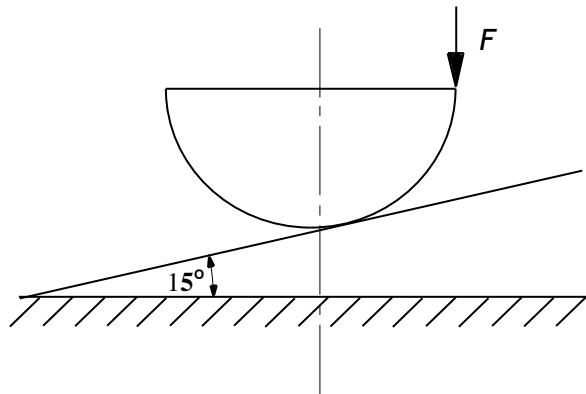

Fig Q1
- (i) stable equilibrium; (2)
- (ii) unstable equilibrium; (2)
- (iii) neutral equilibrium. (2)
- (b) A solid aluminium hemisphere 250 mm diameter rests its curved surface on a rough plane inclined at an angle of 15° to the horizontal. Calculate the force F needed on the edge of the hemisphere, as shown in Fig Q1, to maintain the axis of the hemisphere in the vertical position. (10)